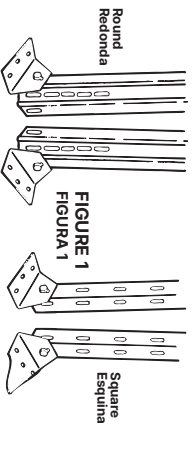

FIGURE 1
1. Loosely attach feet to ends of legs using bolts and Keps nuts. Position feet on legs to assemble two right side and two left side legs, as shown in Figure 1. The feet will pivot to align with roof pitch.